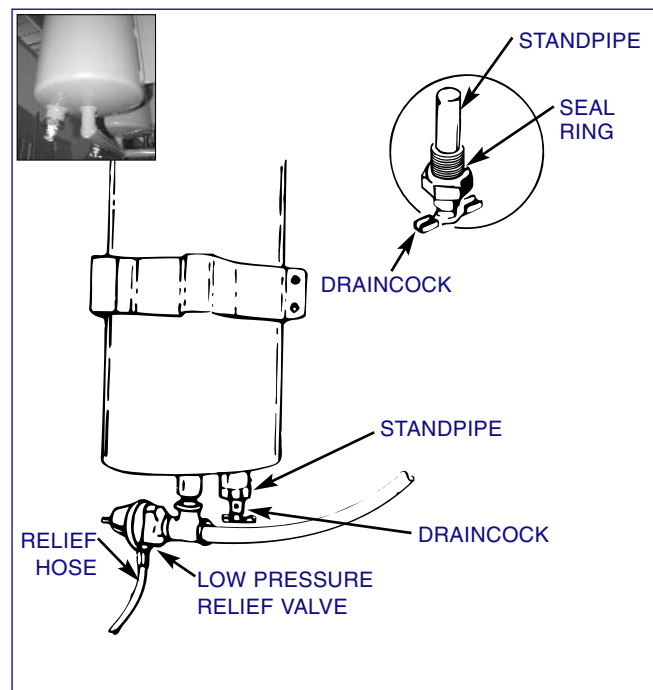

FIGURE 4-4, Filter Canister
4. Open Air Vents in Canister Covers, by turning counterclockwise (see Figure 4-4).